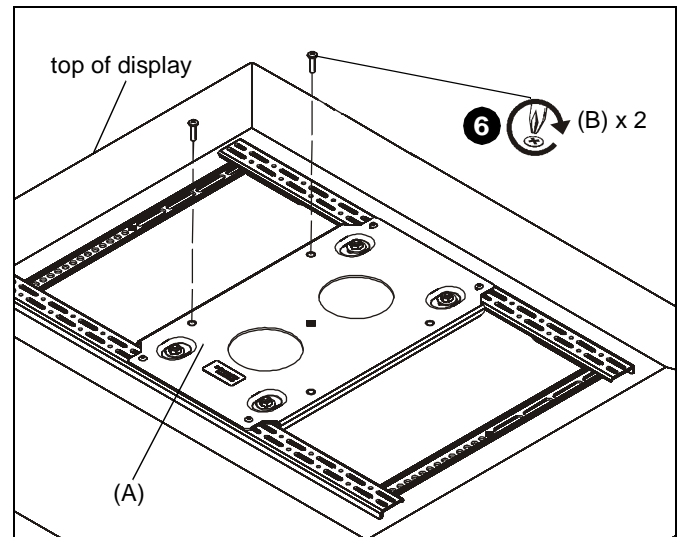

Figure 3
6. Install two 5/16-18 x 1/2" Phillips pan machine screws (B) into top two 200 x 200mm holes on adapter bracket (A). (See Figure 3)